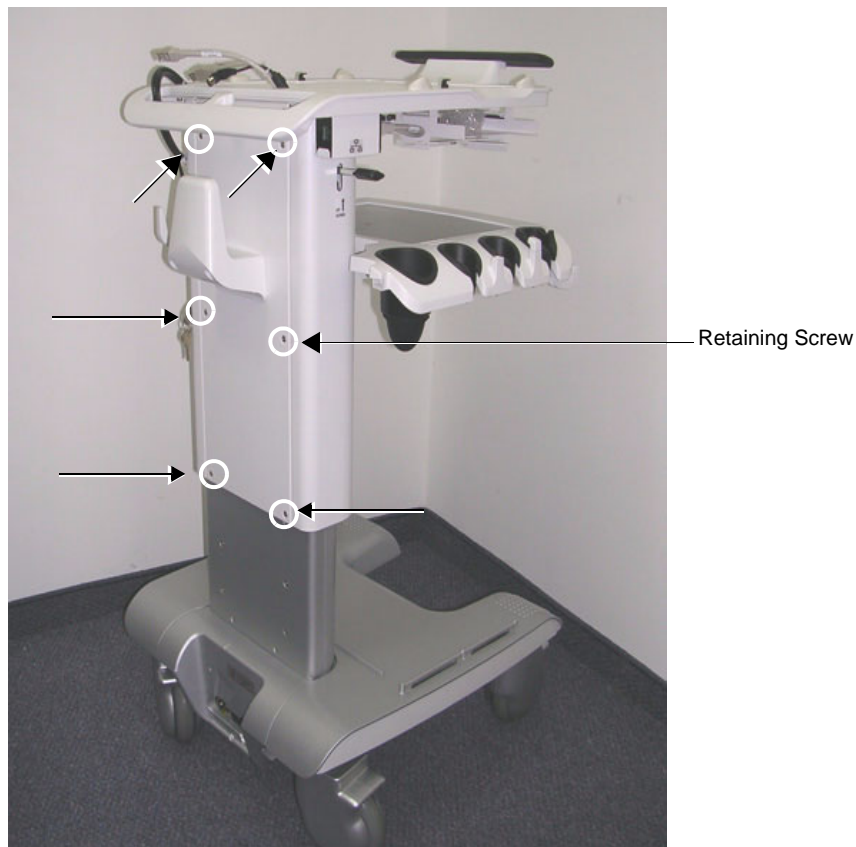

Figure 8-73 Upper Cover (Rear) Removal
Remove the retaining screws of the upper rear cover and while supporting the cover with one hand, carefully remove the cover (see Figure 8-73).
- 1.) Return the cover to the correct position on the rear of the SafeLock Cart (see Figure 8-73).
- 2) While holding the cover to prevent it from falling, return and fasten the two upper screws (see Figure 8-73).